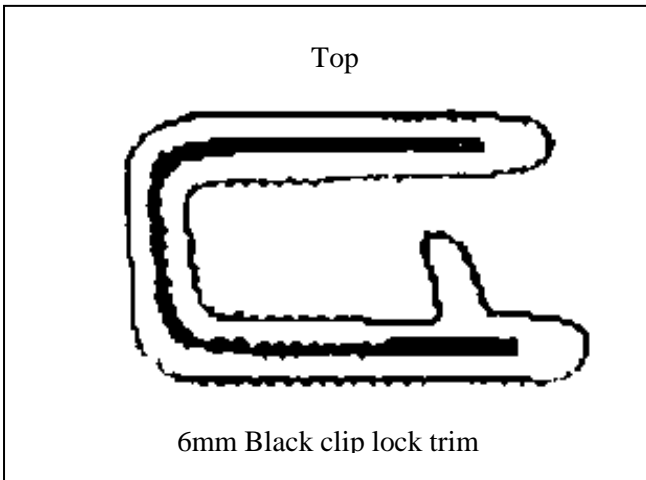

Figure 13
24. Attach 6mm clip lock trim (supplied) to top and into winch opening of ECB protection bar. **NOTE:** Trim off lower edge on an angle so trim will sit flush with end of protection bar. **See figures 13, 14 and 15.**